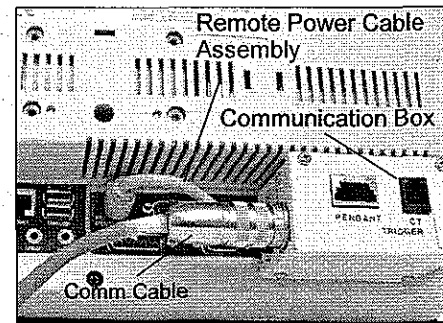

Figure 4-11a: Remote Comm. Box Ass'y
- b. Disconnect the Remote Power Cable Assembly from the KB/Mouse port in back of the Remote Control (see Figure 4-11a).